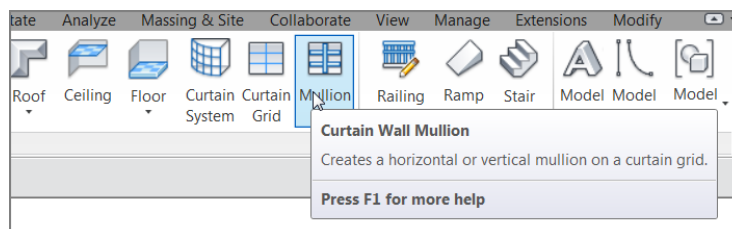

FIGURE 16.35: Click the Mullion button on the Architecture tab.
1. On the Build panel of the Architecture tab, click the Mullion button, as shown in Figure 16.35.